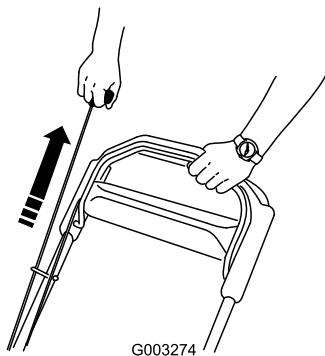

Figure 12
2. Pull the recoil-start handle (Figure 12) lightly until you feel resistance, then pull it sharply, and allow it to return to the rope guide on the handle slowly.